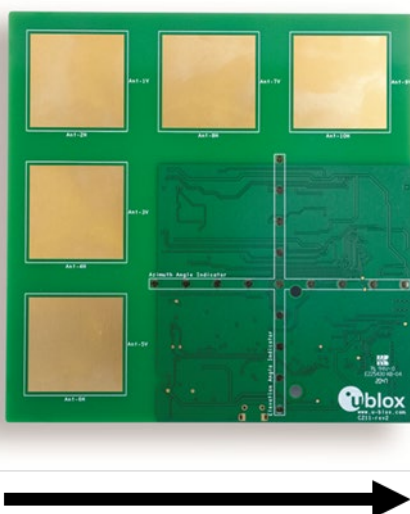

Figure 15: Tag movement
In the events reported above, the beacon is moving from one side of the anchor to the other as angle1, which is given as the third parameter in the event (shown in bold). The beacon moves from a positive value (20) to a negative value (-10). The movement of the tag for these events is shown in Figure 15.